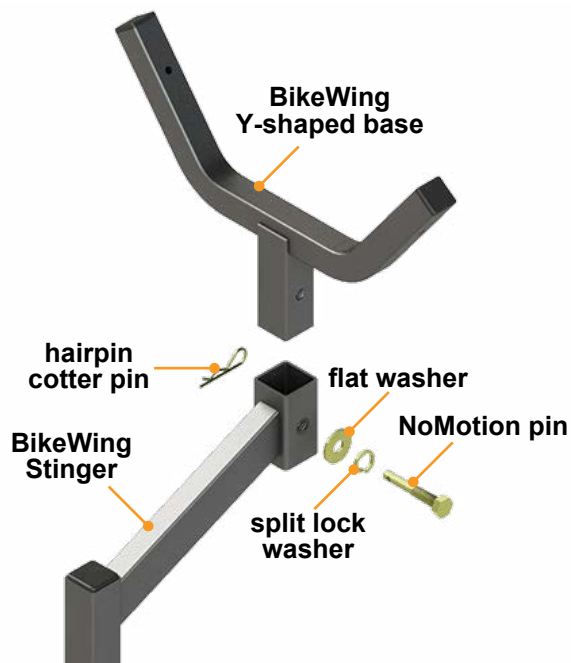

Fig.4
1. Attach Y-shaped base to Stinger (if necessary) and secure with NoMotion pin, washers and hairpin cotter pin (**Fig.4**).